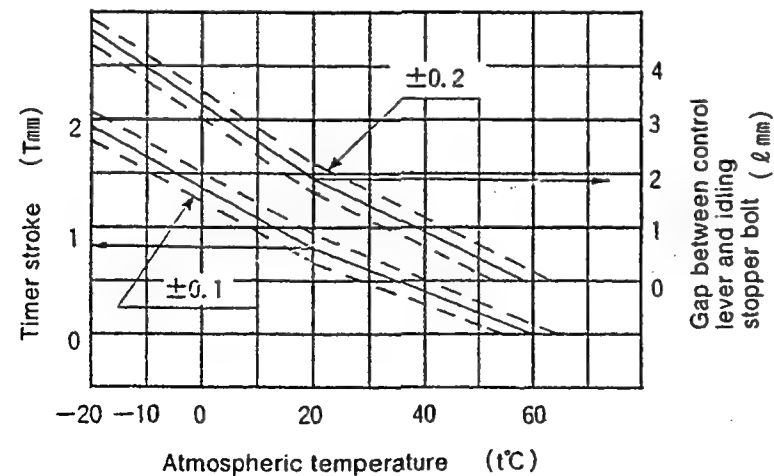

Fig. 2
1. Calculate the block gauge dimension  $\ell \pm 0.05\text{mm}$  from Fig. 2 according to the atmospheric temperature at the time of adjustment.
Formula for calculating Fig. 2